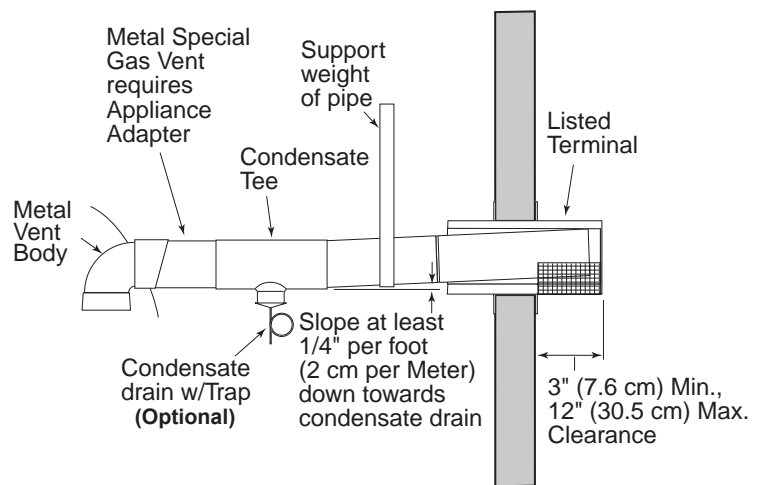

Figure 19.
- at least 3" and at most 12" out from the wall (see Figure 19), following the vent manufacturer’s instructions